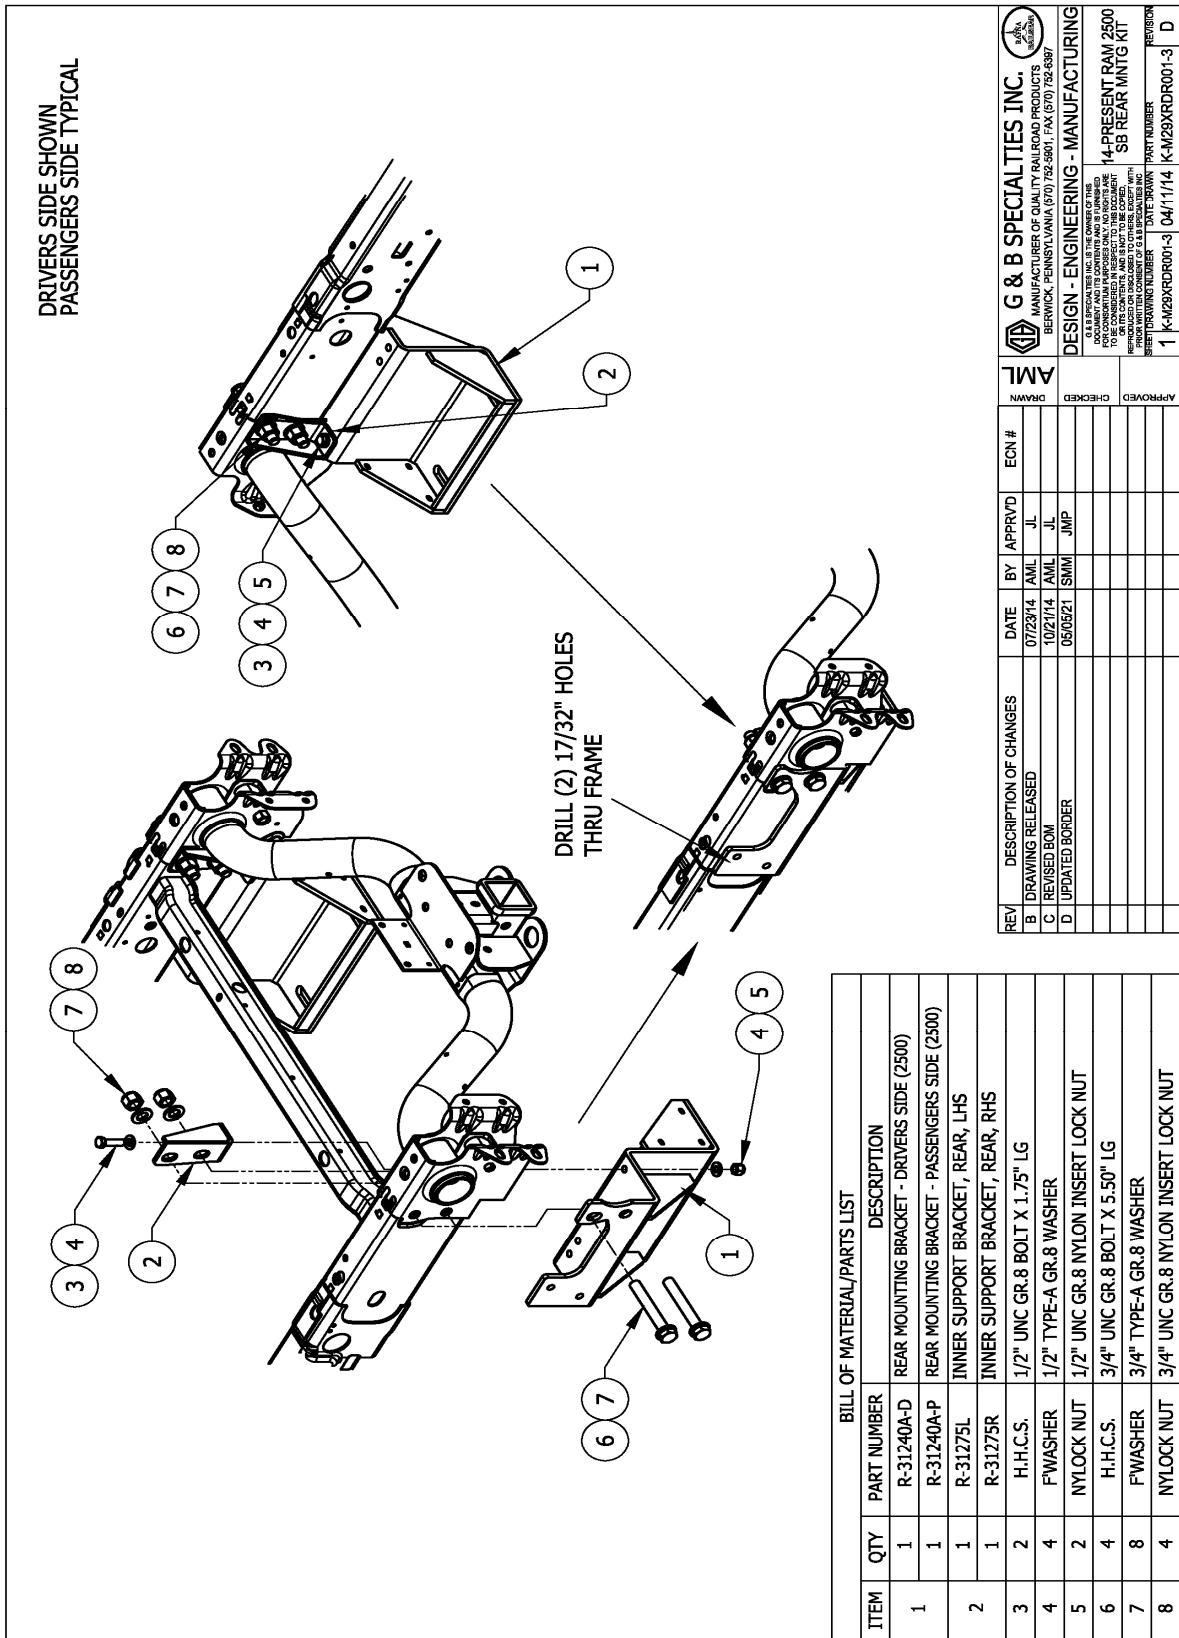

Figure 3 (2500)
6. Install the rear mounting bracket as shown using the supplied 3/4" and 1/2" hardware and support bracket as shown. Ensure the mounting bracket is flush with the outside and bottom surface of the frame rail. (figure 3 & 5)
8. Using the holes in the rear mounting bracket as a guide, drill two 17/32" diameter holes thru the inside and outside frame rail. (figure 3 & 5)